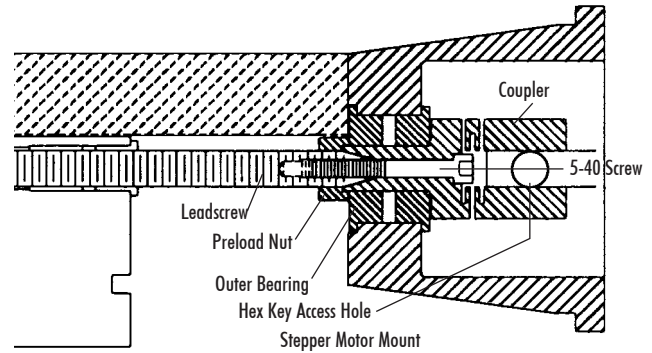

FIGURE 4—A cross-section of the stepper motor mount shows how the coupler is attached to the leadscrew.
1. Before you start, look at the cross-section view in Figure 4 and at the exploded view for the parts list. One of the
4. Using a 3/8" wrench, adjust the preload nut snugly against the bearing. (Note the direction of rotation; i.e., left- or right-hand threads.) Tighten it enough to remove all endplay. (See Figure 4 to understand how the nut preloads the bearings.) Turn the coupling by hand to make sure it turns freely, then put a little LocTite® on the threads behind the preload nut and let capillary action draw the fluid in. Figure 3 shows how to use a hex key through the hole in the mount to keep the coupler from turning while tightening the preload nut.